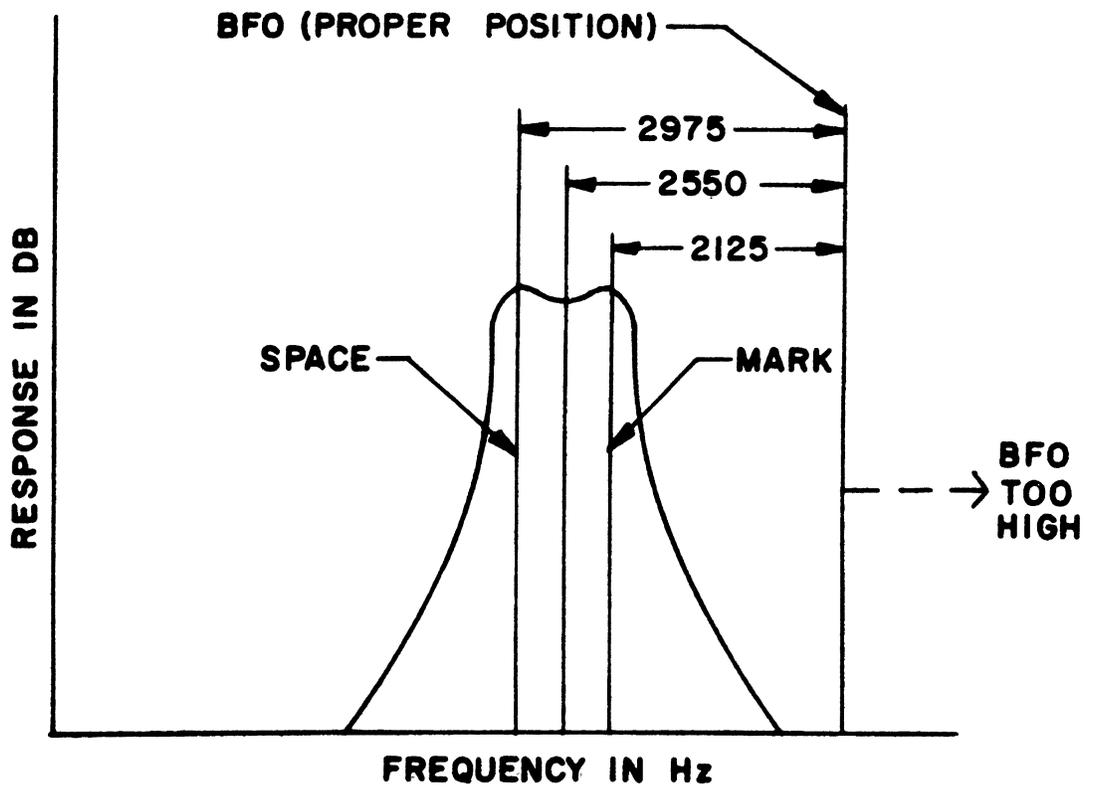

Figure 3-1. BFO Frequency Higher Than Signal Frequency
3.3.1.5 BEAT FREQUENCY OSCILLATOR. Positioning of the mark and space frequencies in the IF passband of the receiver is critical for good performance. The two frequencies must be positioned so that they straddle the center point with equal amplitude. Failure to do this, especially with a very narrow bandpass, can result in a loss of the mark or space frequency. If the receiver Beat Frequency Oscillator (BFO) is varied to produce the mark and space frequencies, the operator must also know whether the BFO is tuned higher or lower than the received signals. This is illustrated in Figure 3-1. If the BFO is set higher in frequency than the received signals, the mark will be the lower frequency and the space will be the higher. This is the correct position for the mark and space signals. If the BFO is set too high, the space signal will be shifted outside the receiver passband, and the mark signal will approach the original position of the space signal.
All is not lost if the operator tunes the BFO to the wrong side of the signal frequency, provided that the mark and space signals still straddle the center point as shown in Figures 3-1 and 3-2. A wrong choice can be corrected by means of the SENSE switch on the FSK Demodulator. This switch reverses the mark and space signals at the output of the detector, thereby permitting the printer to function with the normal mark-space relationship.